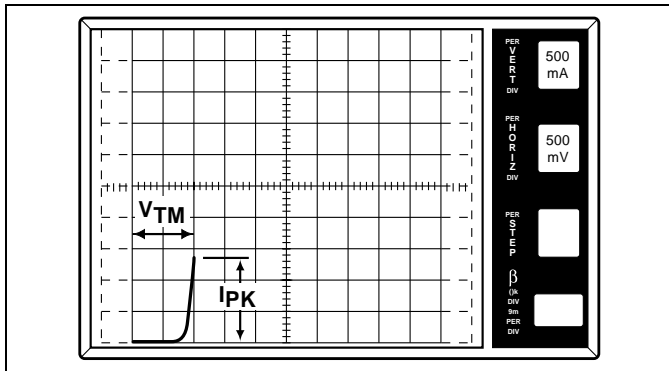

Figure 19.23  $V_{TM}$  (Forward) is equal to 950mV at  $I_{PK}$  equal to 1.4 amps
3. To measure  $V_{TM}$ , follow along horizontal scale to the point where the trace crosses the  $I_{T(peak)}$  value. This horizontal distance is the  $V_{TM}$  value. (See Figure 19.23.)